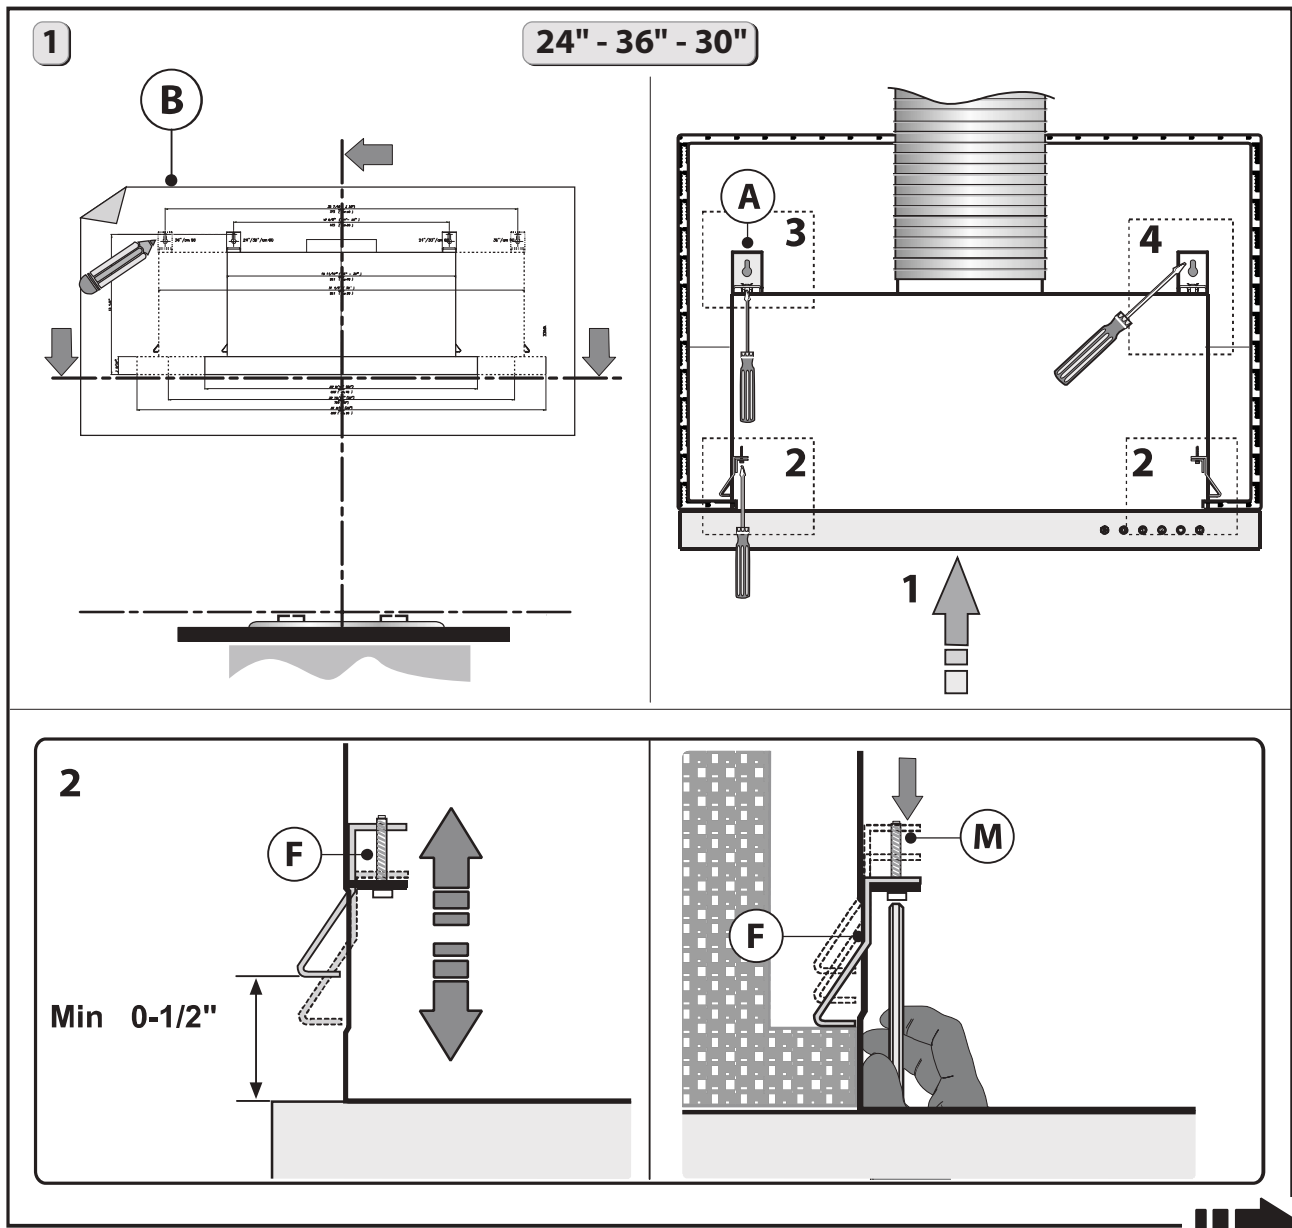
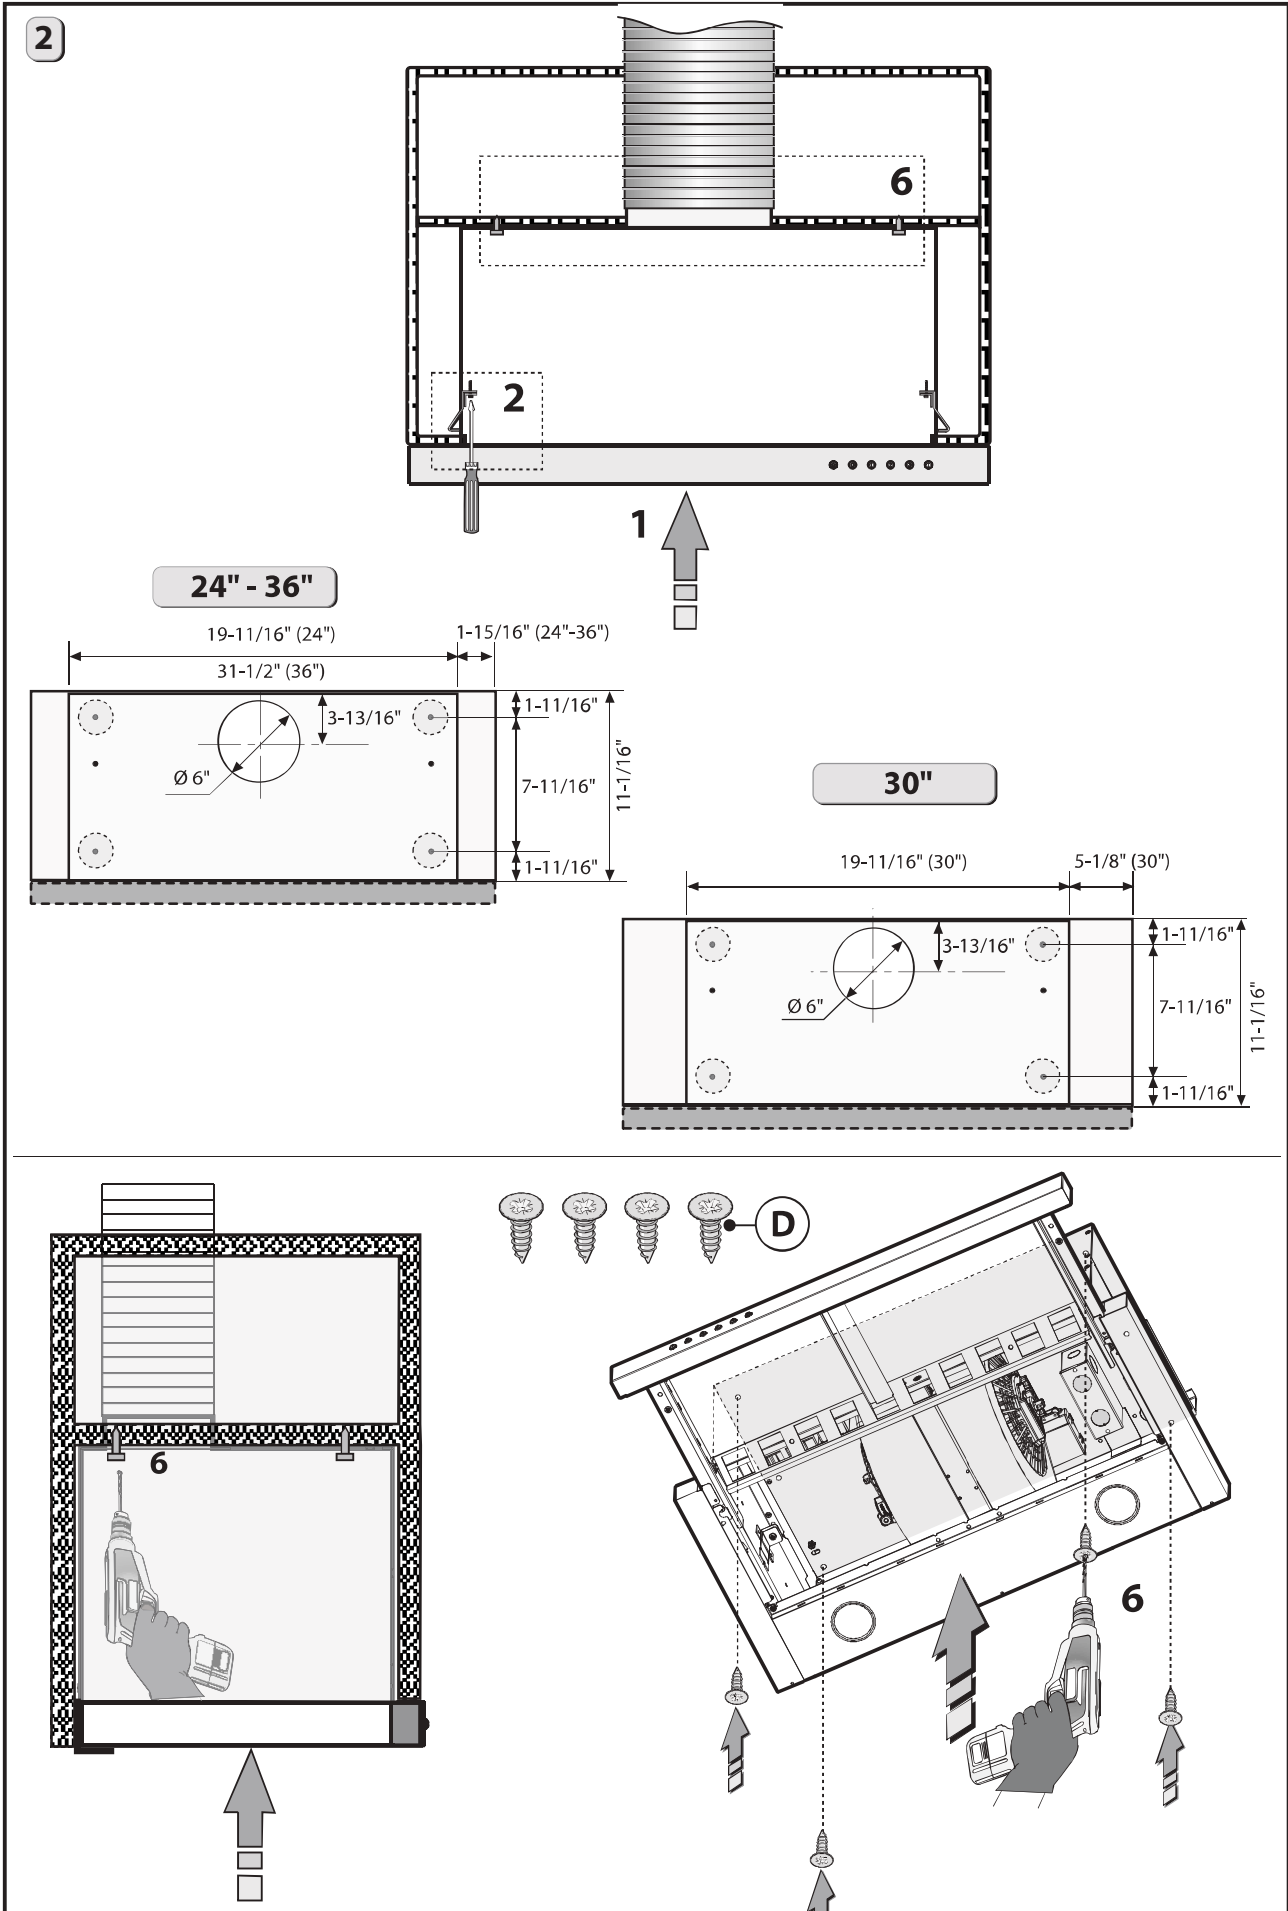

Fig.4
Fig.5
1. Remove pin Y from bracket A. (Pin Y can be discarded.) Then place the insert X on the slot of the bracket A, as indicated in Fig. 4 - step 3. Match the C screws with the L washer and attach the A bracket to the cabinet as indicated in Fig. 4 - step 3.1. Do not completely tighten screws C to allow the bracket to slide back and forth.
- Mark the references to fasten brackets A to the wall cabinet, as indicated in Fig. 4.
3. Make sure the thickness of the wall cabinet is within the parameters indicated in Fig. 4 - step 2.
firmly against the wall cabinet (Fig. 4 - step 2).
5. Remove pin Y from bracket A. (Pin Y can be discarded.) Then place the insert X on the slot of the bracket A, as indicated in Fig. 4 - step 3.
6. After any adjusting to ensure the bracket touches the wall cabinet, tighten the bracket to the body (Fig. 4 - step 3.3).
- Fasten screw D to the wall cabinet as indicated in Fig. 4 - step 4.
- Once you have fastened the hood to the wall cabinet, adjust the spacer L, with the screws P, to make the device line up with the rear wall cabinet (Fig. 4 - step 5).
3 - Make sure the thickness of the wall cabinet is within the parameters indicated in Fig. 4 - step 2.
4 - Install the hood in the wall cabinet and make sure the 2 side springs F are connected correctly. Fasten the hood to the wall cabinet using the screwdriver and the relative screws M and tighten until the device is firmly against the wall cabinet (Fig. 4 - step 2).
5 - Fasten the hood to the upper support shelf as indicated in Fig. 5 - step 6. - Once you have fastened the hood to the wall cabinet, adjust the spacer L, with screws P, to fill the gap between the hood and rear wall. (Fig. 4 - step 5).